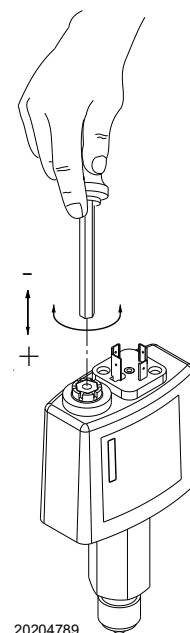

Fig. 40
5.11.4 Minimum oil pressure switch (Fig. 40)